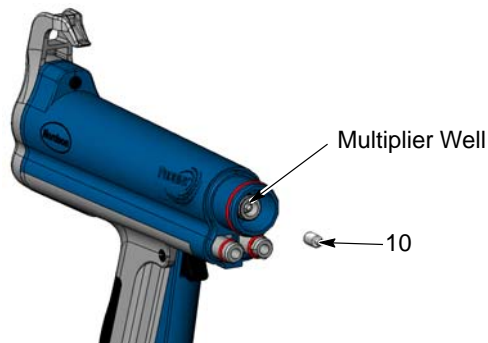
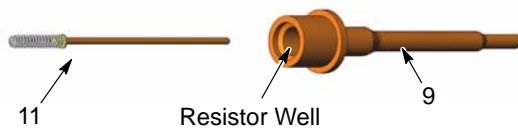

Figure 5 Removing the Contact Spacer
Figure 6 Removing the Resistor from the Holder
- See Figure 5. Remove the contact spacer (10) from the multiplier well. Wipe the dielectric grease off the contact spacer.
- See Figure 6. Remove the resistor (11) from the resistor holder (9).
- See Figure 6. Inject approximately 0.60 cc of dielectric grease into the resistor well.
- Insert the resistor (11) into the resistor holder (9) until it bottoms out, then fill the resistor well with approximately 0.8 cc of dielectric grease.
- See Figure 5. Insert the contact spacer (10) into the multiplier well. Fill the multiplier well with dielectric grease.